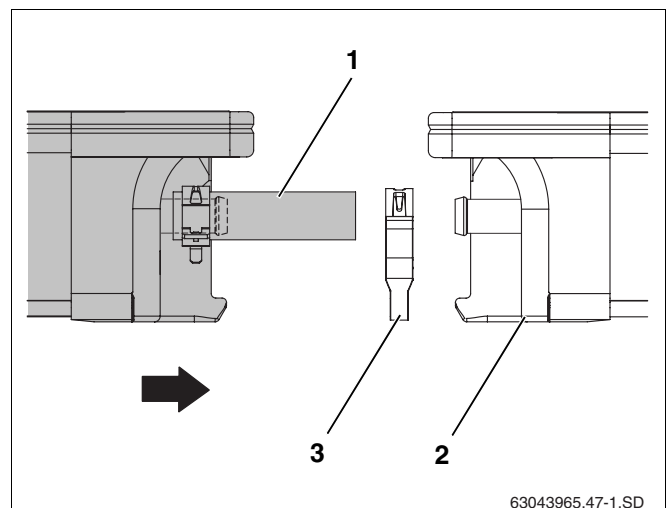

Fig. 49 Pushing second collector towards the first
- ▶ Place second collector along with the pre-assembled solar hoses (Fig. 49, **Item 1**) onto the profile rails and let it slide into the anti-slip protectors.
- ▶ Push the second hose clip (Fig. 49, **Item 3**) onto the solar hose.
- ▶ Push the collector towards the first collector (Fig. 49, **Item 2**) so that the pre-assembled solar hoses are pushed onto the left-hand connections on the first collector.